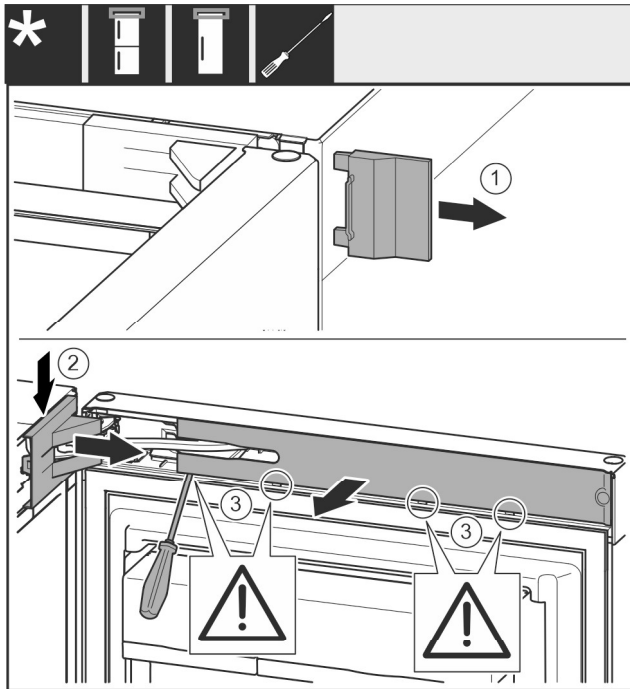

Fig. 9
- ▶ Remove the cover Fig. 9 (1).
- ▶ Snap out the swap bearing block cover Fig. 9 (2) and loosen it.
- ▶ Take off the swap bearing block cover Fig. 9 (2).
- ▶ Use a slotted screwdriver to snap out the faceplate Fig. 9 (3) and swivel it to the side.